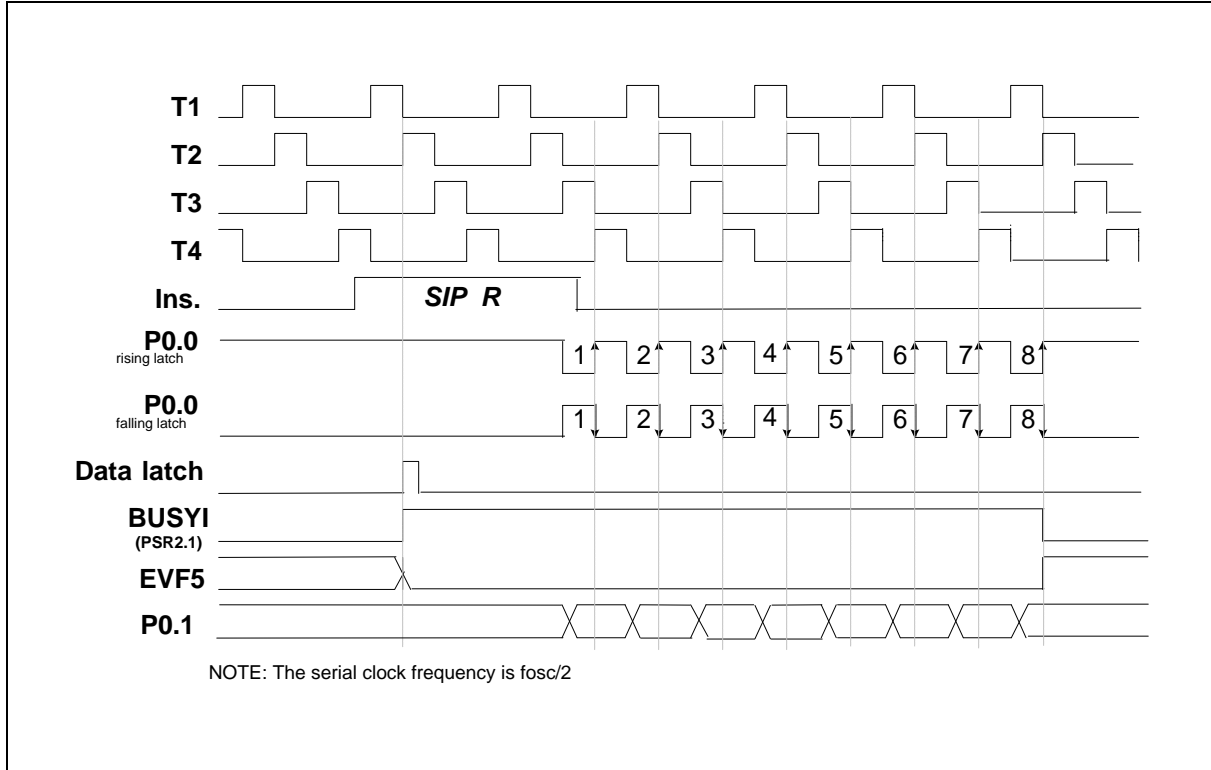

Figure 5-12 Timing of the Serial Input Function (SIP R)
- (1) When in the first time the SIP R instruction is executed, the data will be loaded to the ACC and RAM from the serial input buffer. But this data is not meaningful, it is used to enable serial port. There are two methods to get the serial data, one is interrupt and the other is polling. When enable the serial input, the bit 1 of port status register 2 (PRS2) will automatically be set to "1" ($BUSY_1 = 1$). Then the P0.0 pin will send out 8 clocks or accept 8 clocks from external device and the data from the P0.1 pin will be loaded to SIB buffer at the rising or falling edge of the P0.0 pin. After the 8 clocks have been sent, $BUSY_1$ will be reset to "0" and $EVF.5$ will be set to "1." At this time, if $IEF.5$ has been set ($IEF.5 = 1$), an interrupt is executed then the SIP R instruction can get the correct data from the serial input buffer (SIB), low nibble of SIB moves to ACC register and the high nibble moves to RAM; if $HEF.5$ has been set ($HEF.5 = 1$), the hold state is terminated. The polling method is to check the status of $PSR2.1$ ($BUSY_1$) to know whether the serial input process is completed or not. If a serial input process is not completed, but the SIP R instruction is executed again, the data will be lost. The timing is shown in Figure 5-12.